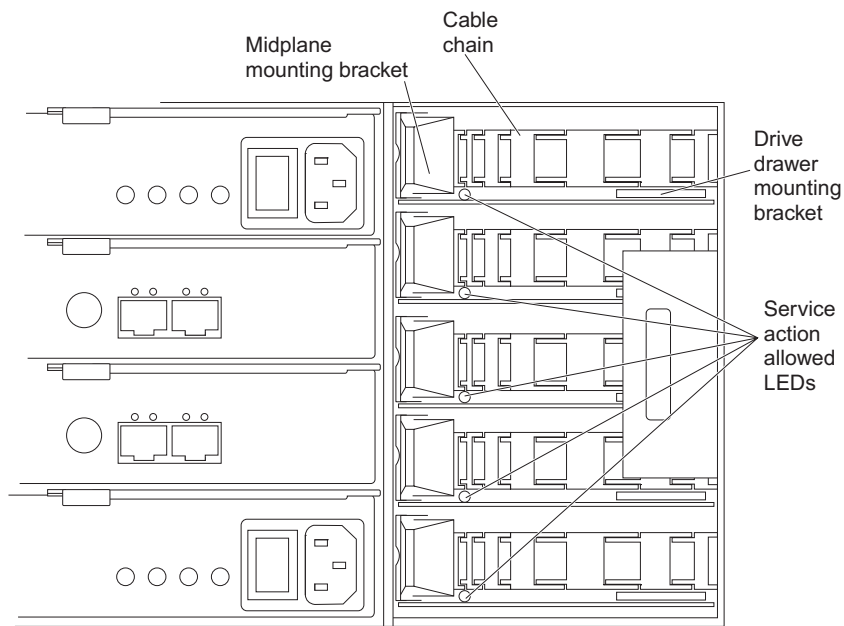

Figure 89. Rear view of the storage expansion enclosure with the right fan assembly removed
- a. At the rear of the drive enclosure, remove the right fan assembly. See “Replacing a fan assembly” on page 124 for the steps to remove a fan assembly. Figure 89 on page 127 shows the area with the fan assembly removed.